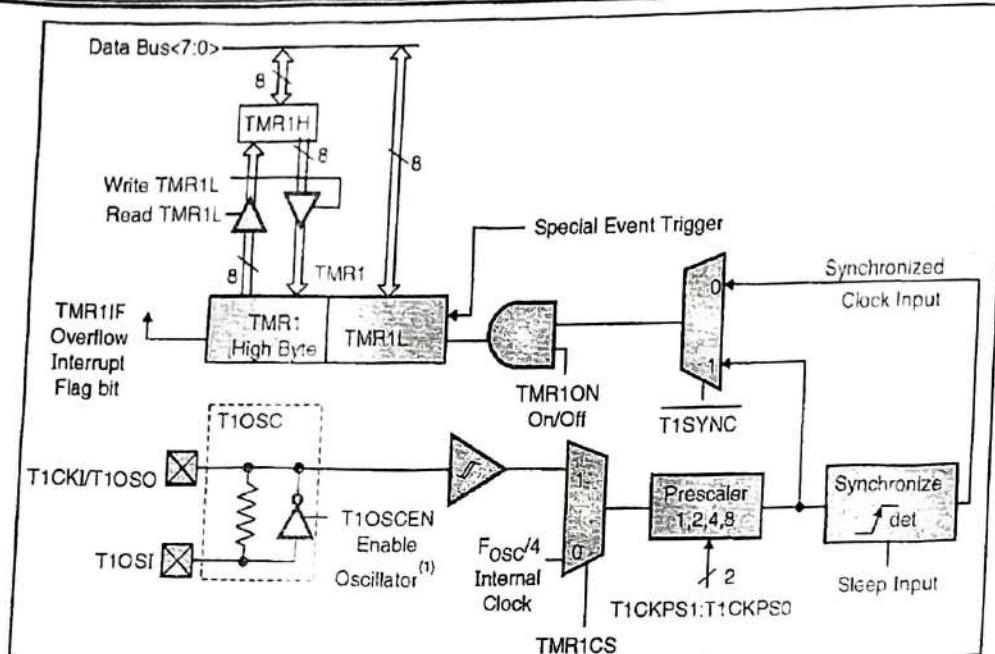

Fig. 5.4.2 : Timer 1 block diagram: 16-bit read/write mode
- Timer 1 can be configured for 16-bit reads and writes (Refer Fig. 5.4.2). When the RD16 control bit (T1CON register) is set, the address for TMR1H is mapped to a buffer register for the high byte of Timer 1.